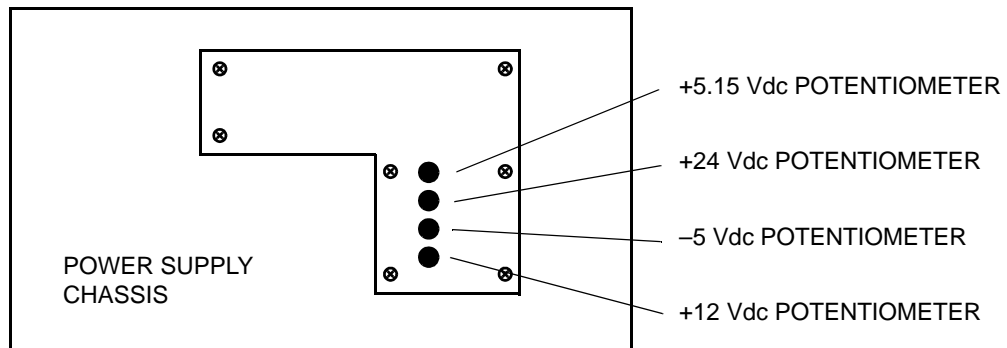

Figure 7-3. Power Supply Adjusting Potentiometer Location
4. The adjusting potentiometer locations are shown in Figure 7-3. The voltage ranges for the power supplies are shown in the table below.